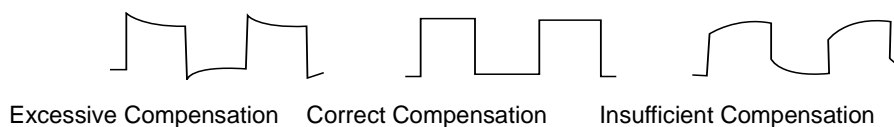

Figure 4-2 Compensating Calibration of Probe
① Set the attenuation coefficient in the probe menu and the switch on the probe to 10x, and connect the probe to CH1. Make sure the probe's connector is properly connected with the oscilloscope. Connect the probe's main clip and ground clip to the oscilloscope's compensating signal and ground terminal respectively. Open CH1 and press the AUTO button.
② View displayed waveforms, as shown in Figure 4-2.